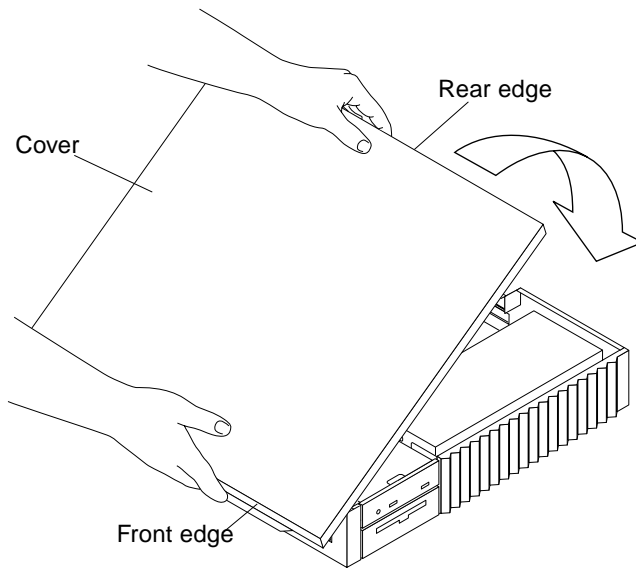

FIGURE 7-4 Replacing the Cover
2. **Grasp the cover by the front and rear edges** (FIGURE 7-4).
- 4. Lower the cover onto the chassis (FIGURE 7-4).**